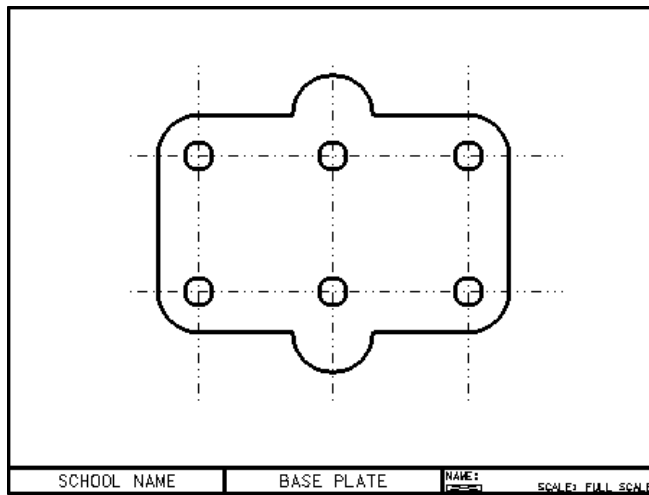

Figure P4–9 Design after placing the bolt hole circles
This procedure uses the Place Circle and Array tools to place the bolt hole circles in the design, as shown in Figure P4–9.
- STEP 4:** Click the Data button to place a circle at the intersection and click the Reset button to release the circle as shown in Figure P4–10.